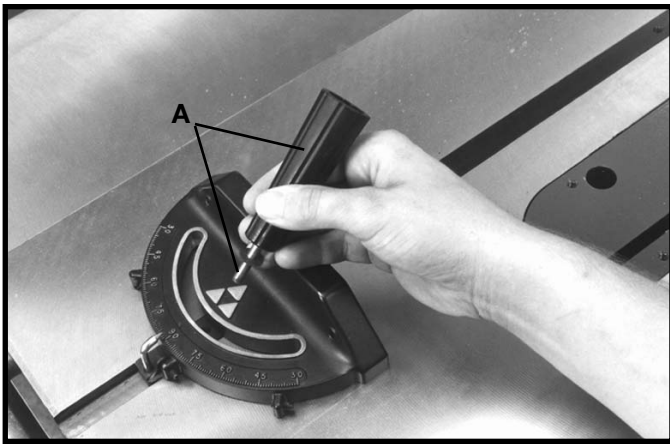

Fig. 121
Insert the miter gage bar into the miter gage slot and assemble the washer and lock handle (A) Fig. 121, to the miter gage bar as shown.